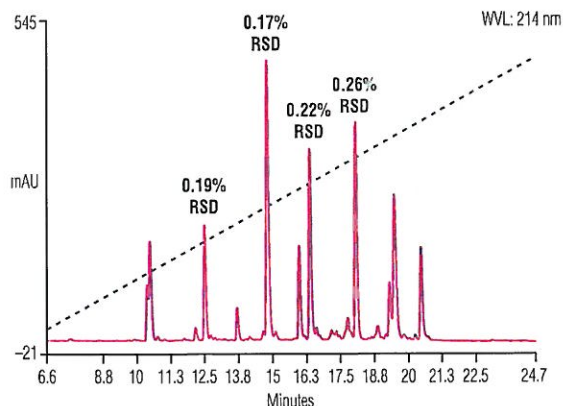

Figure 23. Peak area precision of a lysozyme digest for five consecutive 10 µL partial loop injections (WPS-3000TBL Biocompatible Analytical Autosampler).
- High-peak-area precision is guaranteed by an excellent injection precision of < 0.3% RSD—even in partial loop mode (Figure 23).